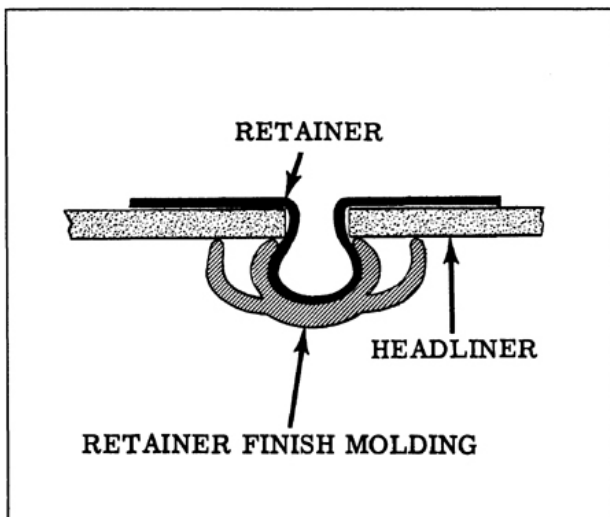

Fig. 16-205 Headliner and Retainer
1. With a screwdriver or suitable tool, pry one end of the plastic retainer finishing molding loose from its retainer. Then peel the plastic retainer finishing molding from its retainer. (Fig. 16-205)